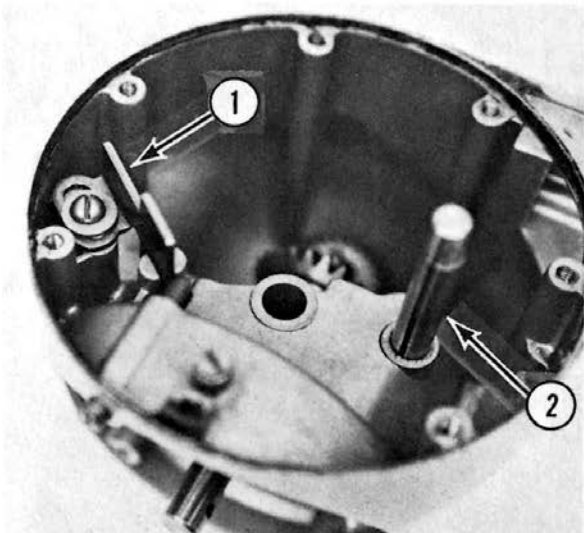

Fig. 3-26
- A. Install the tumbler yoke stop (1, Fig. 3-26) if it was removed.
- B. Install the eccentric shaft (2, Fig. 3-26) if it was removed.